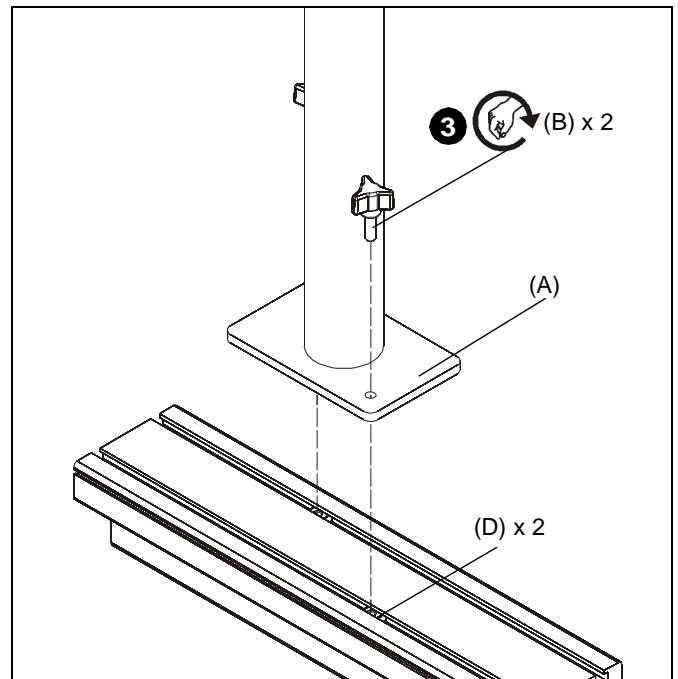

Figure 4
1. Slide two 1/4-20" square nuts (D) into wall track assembly at desired mounting location. (See Figure 4)
2. Secure pole adapter to wall track assembly by installing two knob screws (B) through holes on pole adapter (A) and into two 1/4-20" square nuts (D). (See Figure 4)